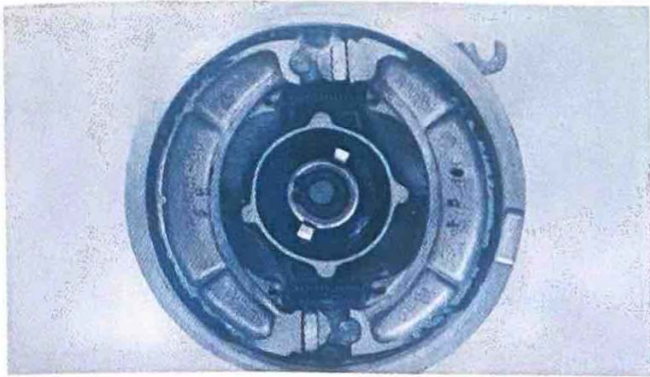

Fig. 19
- (2) Make sure the brake shoes and springs are correctly installed in the shoe plate assembly. If any one of them is out of place, correct per the figure. (Fig. 19)